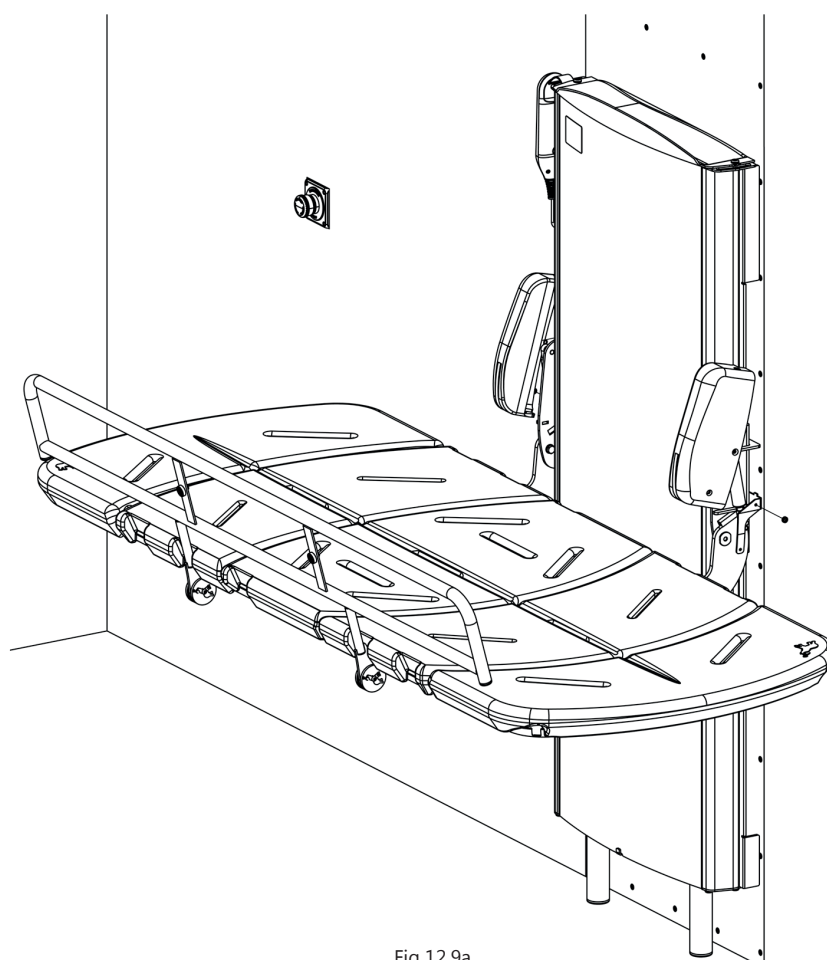

Fig 12.9a
- Locate the gas spring covers and rotate into position, as shown in Fig 12.9a.